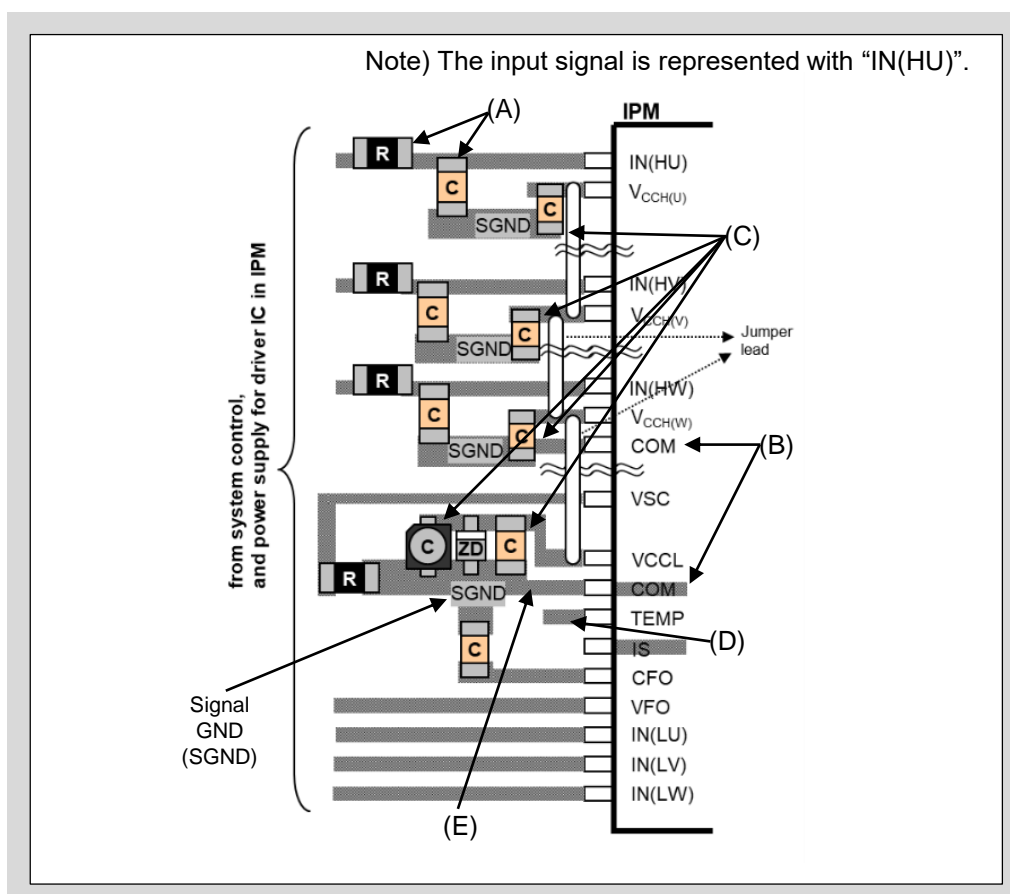

Fig. 5-7 Image of recommended PCB layout (Interface part)
- (A) Use high speed comparator and logic IC to detect OC condition quickly
- (B) The reference voltage of OC which is input to the comparator should be coupled by a capacitor to signal GND. The capacitor should be connected as close as possible to the comparator.
- (C) Separate the signal GND pattern of COM terminal and the signal GND pattern of comparator.
- (D) The signal GND pattern of COM terminal and the signal GND pattern of comparator should be connected at a single point ground. The single point ground should be as close as possible to the shunt resistor.
- (E) Other precautions and recommended patterns are same as Fig. 5-7(a). Refer to Chapter 4, Section 2 for details on circuit constant determination.